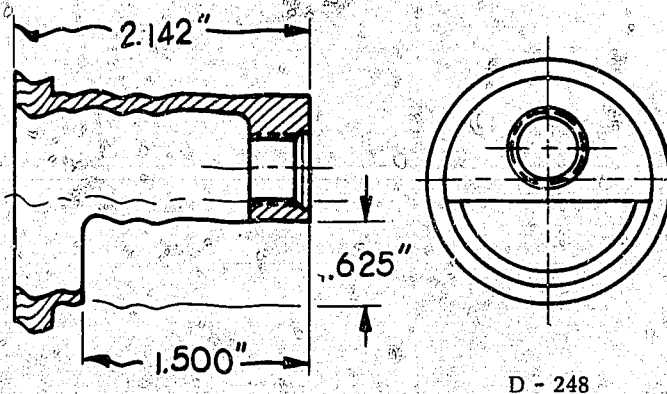

FIGURE 6 - REWORKED CP 7625
5-3	Control Rack Cap CP 7625 machined per Fig. 6
2. Thread jam nut (5-2) on hex bolt (5-1) and install in reworked CP 7625 (See Figure 6).